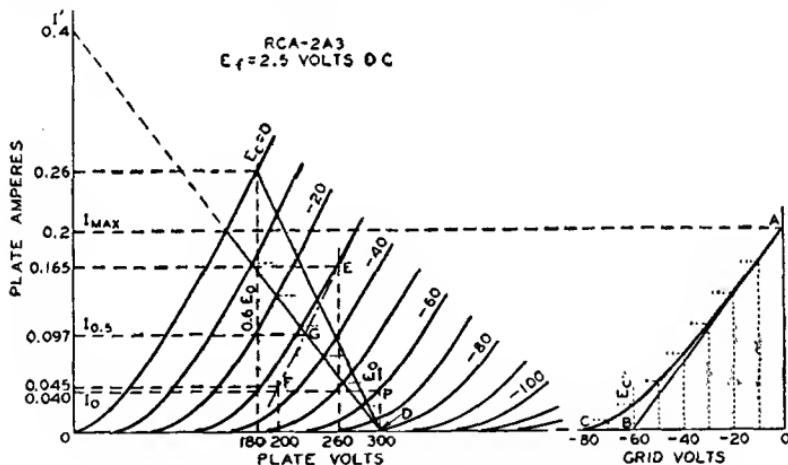

Fig. 24
In class AB1 push-pull amplifier service using triodes, the operating conditions may be determined graphically by means of the plate family if  $E_o$ , the desired operating plate voltage, is given. In this service, the dynamic load line does not pass through the operating point P as in the case of the single-tube amplifier, but through the point D in Fig. 24. Its position is not affected by the operating grid bias provided the
In general, for any load line through point D, Fig. 24, the plate-to-plate load
**Example:** Fig. 24 illustrates the application of this method to a pair of 2A3's operated at  $E_o=300$  volts. Each tube has a plate-dissipation rating of 15 watts. The method is to erect a vertical line at  $0.6E_o$ , or at 180 volts, which intersects the  $E_c=0$  curve at the point  $I_{max}=0.26$  ampere. Using the simplified formulas, we obtain
The operating bias and the zero-signal plate current may now be found by use of a curve which is derived from the plate family and the load line. Fig. 25 is a curve of instantaneous values of plate current and dc grid-bias voltages taken from Fig. 24. Values of grid bias are read from each of the grid-bias curves of Fig. 24 along the load line and are transferred to Fig. 25 to produce the curved line from A to C. A tangent to this curve, starting at A, is drawn to intersect the grid-voltage abscissa. The point of intersection, B, is the operating grid bias for fixed-bias operation. In the example, the bias is  $-60$  volts. Refer back to the plate family at the operating conditions of plate volts =  $300$  and grid bias =  $-60$  volts; the zero-signal plate current per tube is seen to be  $0.04$  ampere.
As in the case of the push-pull class A amplifier, the second-harmonic distortion in a class AB1 amplifier using triodes is very small and is largely canceled by virtue of the push-pull connection. Third-harmonic distortion, however, which may be larger than permissible, can be found by means of composite characteristic curves. A complete family of curves can be plotted, but for the present purpose only the one corresponding to a grid bias of one-half the peak grid-voltage swing is needed. In the example, the peak grid voltage per tube is 60 volts, and the half value is 30 volts. The composite curve, since it is nearly a straight line, can be constructed with only two points (see Fig. 24). These two points are obtained from deviations above and below the operating grid and plate voltages.
long-short dash line in Fig. 24. At the intersection of the composite curve and the load line, G, the instantaneous composite plate current at the point of one-half the peak signal swing is determined. This current value, designated  $I_{0.5}$  and the peak plate current,  $I_{\max}$ , are used in the following formula to find peak value of the third-harmonic component of the plate current.